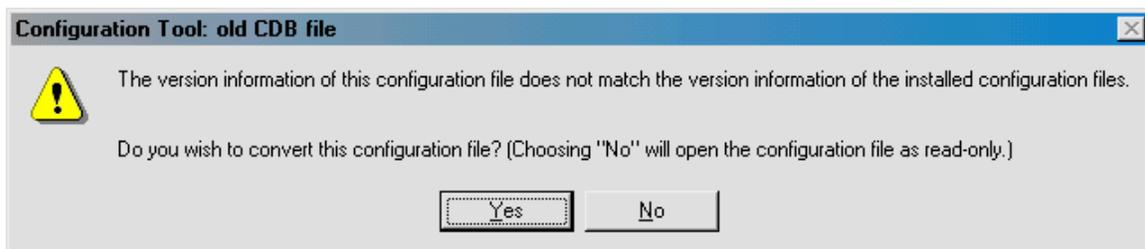

Figure 1. Configuration Tool Conversion Message
- Step 2: Code Composer Studio will give you a message that the configuration file is out of date as seen in Figure 1.
- Step 2: Code Composer will give you a message that the configuration file is out of date, as seen in Figure 1.